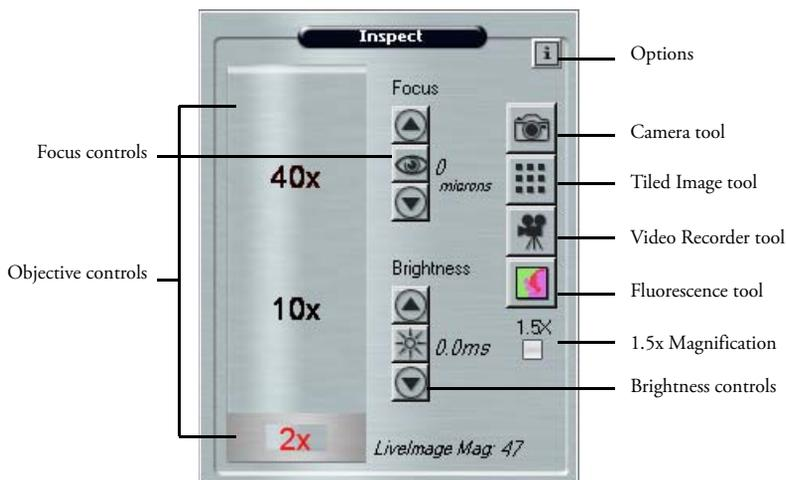

Figure 5.1: The Inspect tools pane.
- 2 Click on the 1.5x box in the Inspect tool pane (see Figure 5.1) to tell the software the feature has been selected.